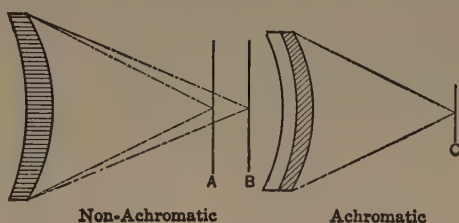

FIG. 292. — Single meniscus lens at left and double combination lens at right.
**Camera lenses.** A single lens is found in the cheapest cameras. The violet rays (actinic rays) are the ones that are most active in making our pictures, but most of the visual rays by which we see objects come from the green, yellow, or red rays. A single lens, used wide open, focuses the actinic rays at *A*, Fig. 292, but the visual rays by which we focus the picture are focused farther away, at *B*. Since flint glass bends the actinic rays more than crown glass does, it is possible to combine a negative flint lens with a positive crown lens so that the actinic or chemical rays and the visual rays are focused at the same point, or at *C*. Such a lens gives no separation of colors and is called an **achromatic lens**.